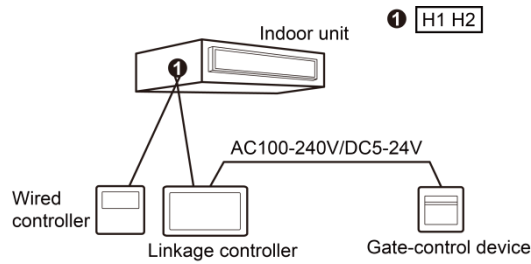

Fig.5.8 Connection fashion 2 of Wired Controller and Gate Control
- ② The linkage controller in figure 5.8 should be set as slave HBS device.
- (3) Power input of gate control card insertion/removal device supported by linkage controller: AC 100-240V~50/60Hz, DC 5~24V. In practice, connect the gate control output power cord with the corresponding power supply interface of linkage controller according to the type of output power of gate-control device. The linkage controller will judge the placing and absence of card by detecting the power supply of gate-control device. The detecting process is as follow: